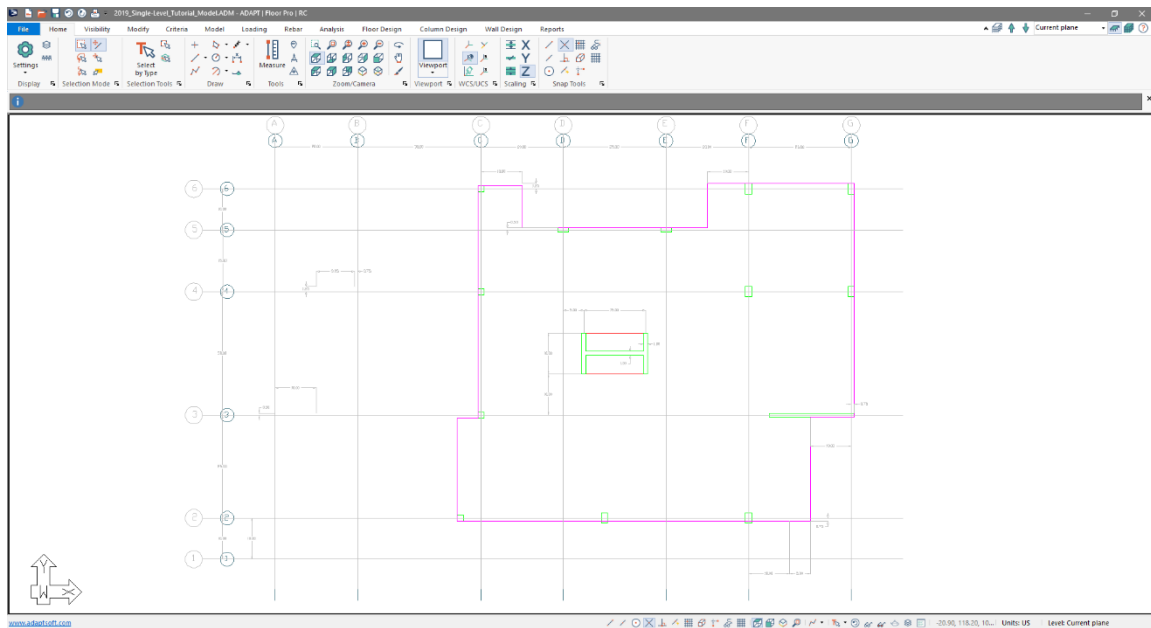

Figure 2-23
- At this point we can click on the *Zoom Extents*  icon. The user should see the imported DWG overlaid with the model gridlines as shown in **FIGURE 2-23**.